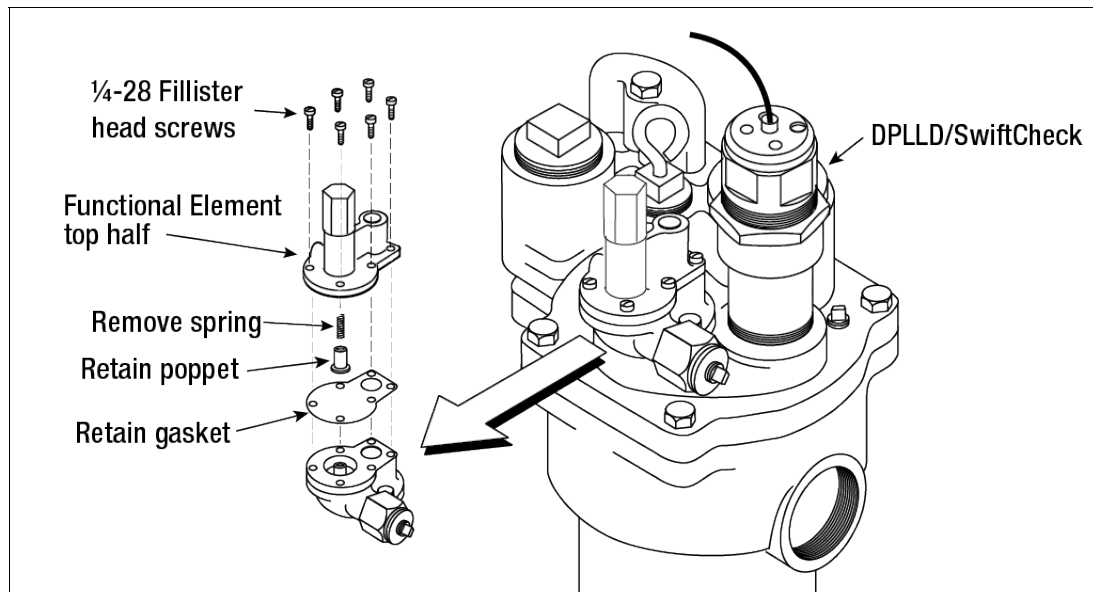

Figure 6. Modifying The Functional Element In Red Jacket Pumps
12. The DPLLD Swiftcheck valve eliminates the need for the pumps Functional Element relief valve function. Remove the existing Functional Element from the packer and discard. Obtain a new Pump Service Kit (P/N 344-001-5) which includes the new Functional Element, Check Valve and Seals. Using the new Functional Element, remove the 6 – 1/4-28 Fillister Head Screws and set aside. Remove the top assembly of the Functional Element from its body by pulling straight upward from to separate the top from the body. Gently fold back/separate the diaphragm from the top and remove the poppet and the spring. Discard the spring but reinstall the poppet (see Figure 6).